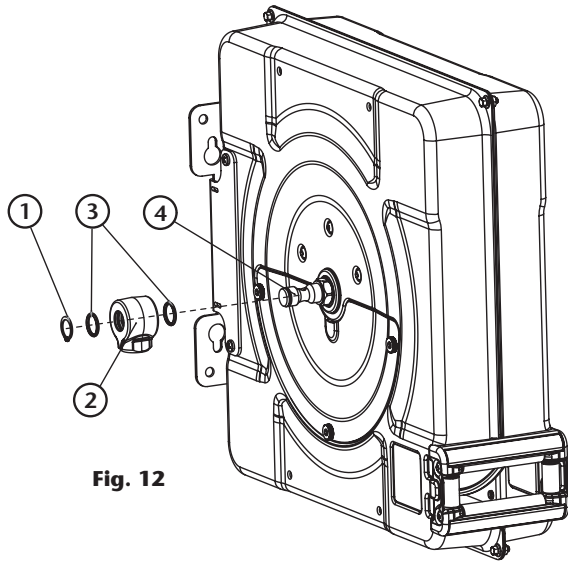

Fig. 12
2. Take apart the circlip (1) (fig. 12) and remove the swivel (2) (fig. 12).
3. Replace the sealing rings (3) (fig. 12). For the medium & high pressure hose reels, the sealing rings are located on the swivel. For low pressure hose reels, the sealing rings are located on the shaft. If you also need to replace the swivel, disconnect the inlet hose from it and connect the hose again to the new swivel.
4. Apply a bit of grease to the swivel and the shaft (4) (fig. 12) before introducing the swivel carefully through the shaft.